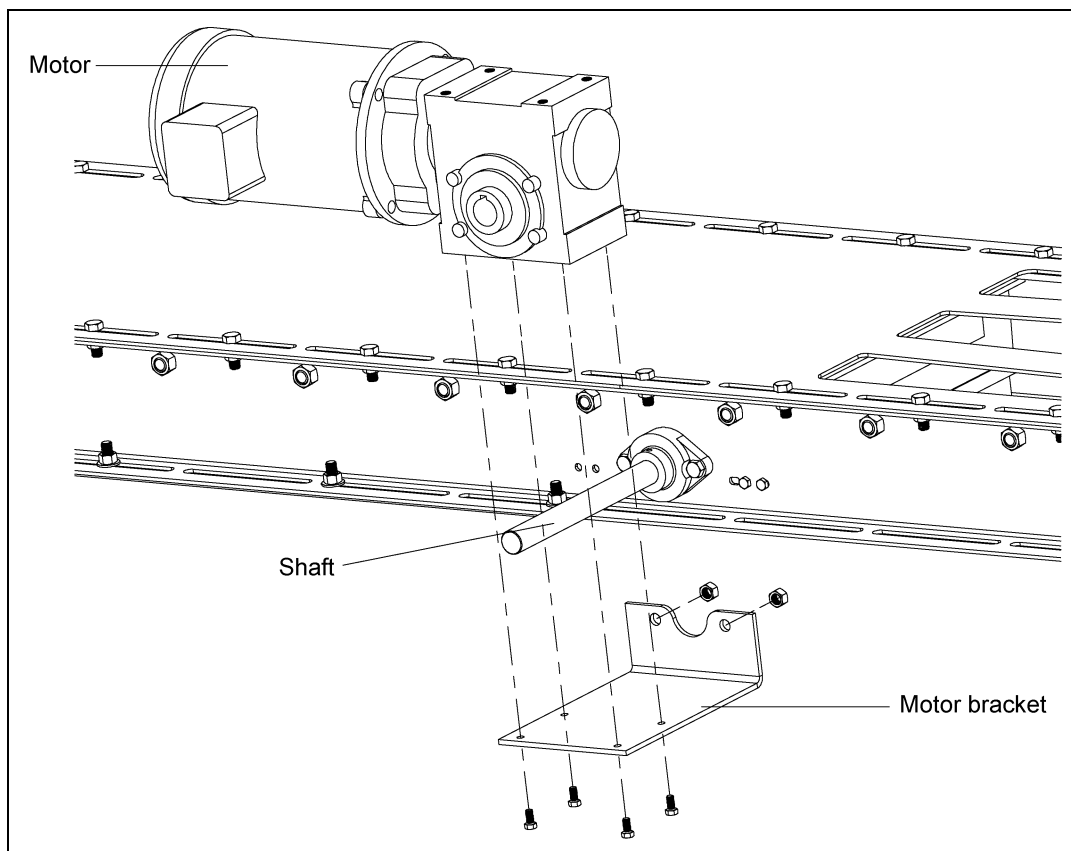

Figure 3D
1. Install the motor bracket to the gate. Then attach the motor to the bracket as shown *in Figure 3D*, using the provided hardware.